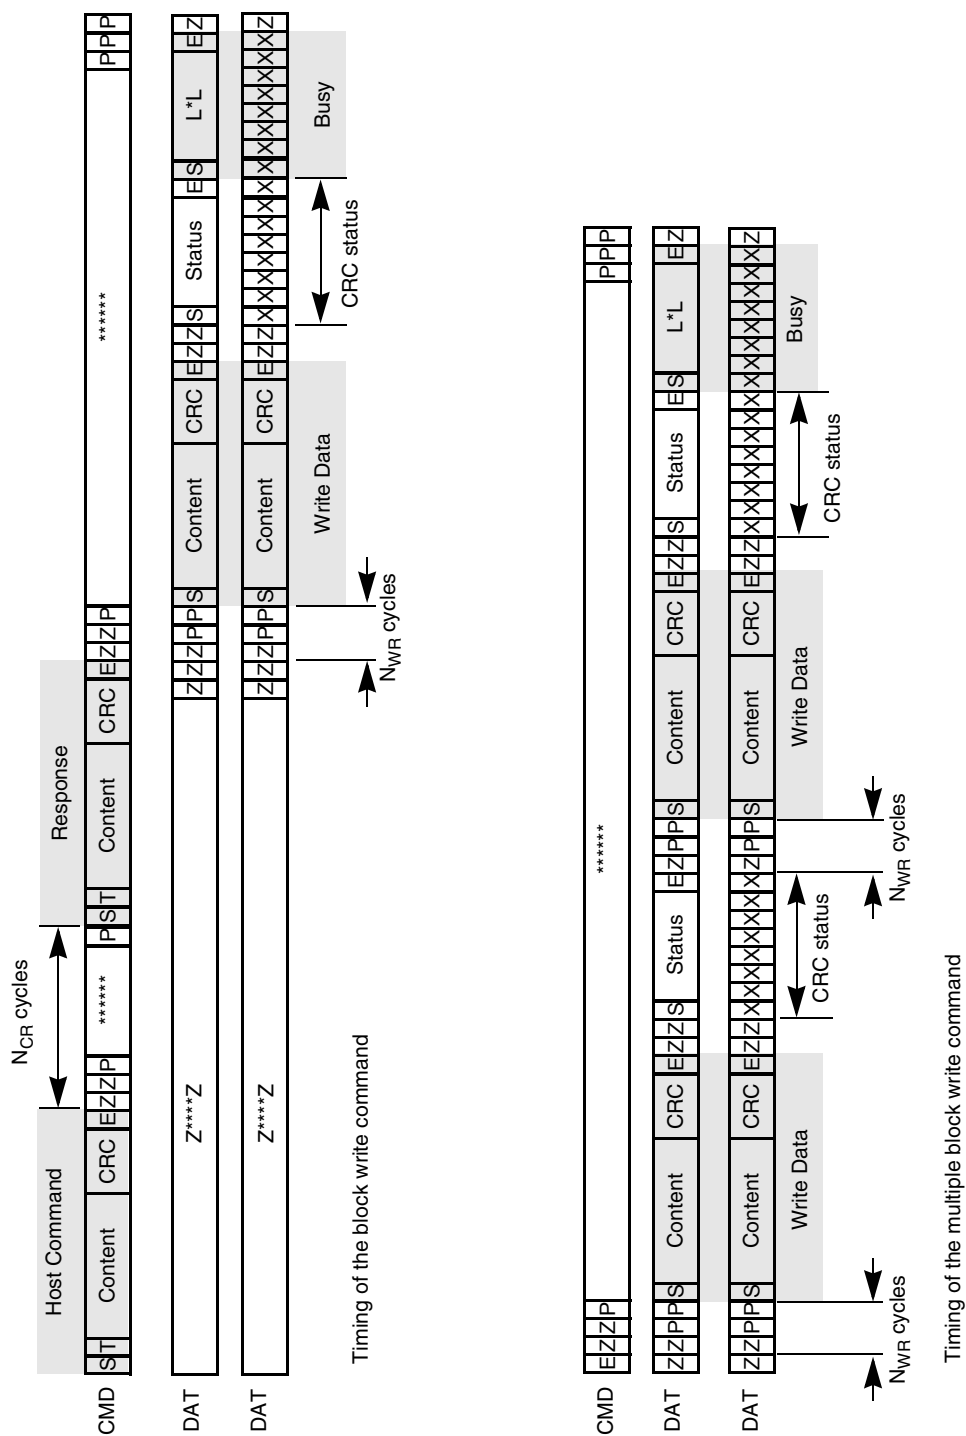

Figure 29. Timing Diagrams at Data Write
Figure 29 on page 41 shows the basic write operation timing. As with the read operation, after the card response, the data transfer starts after N_{WR} cycles. The data is suffixed with CRC check bits to allow the card to check for transmission errors. The card sends back the CRC check result as a CC status token on the data line. If there was a transmission error, the card sends a negative CRC status (101); otherwise, a positive CRC status (010) is returned. The card expects a continuous flow of data blocks if it is configured to multiple block mode, with the flow terminated by a stop transmission command.